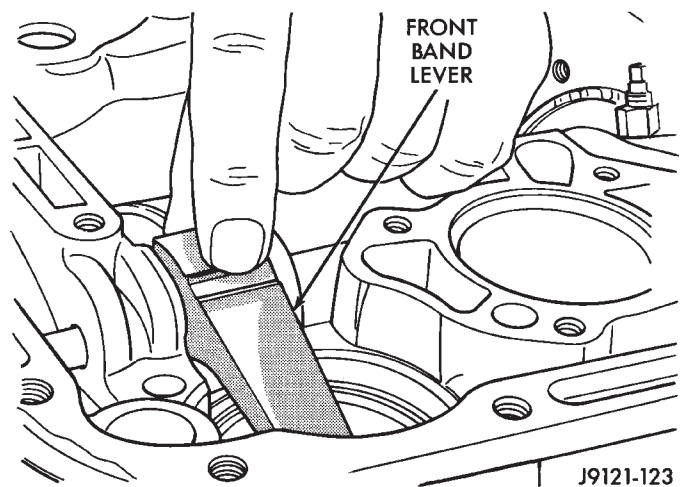
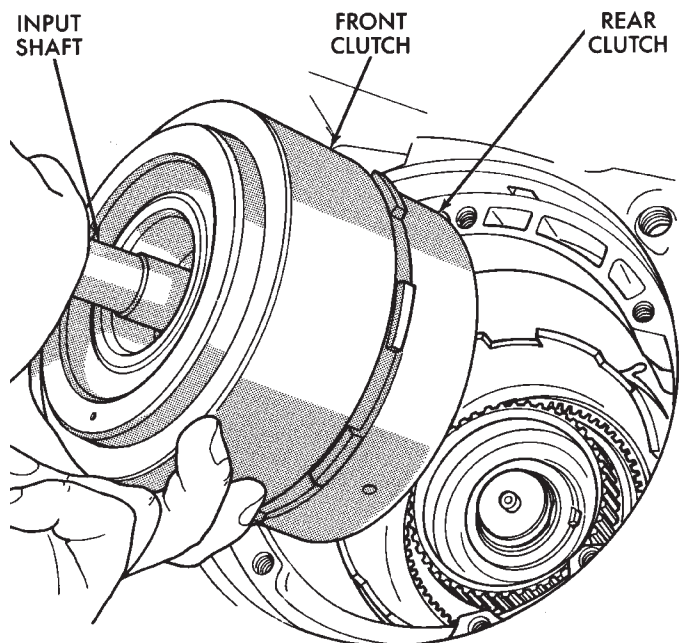

Fig. 13 Removing/Installing Front Band Lever
Fig. 14 Removing Front/Rear Clutch Assemblies
- (21) Remove front band lever (Fig. 13)
- (22) Slide front band rearward and onto driving shell. Band will not be removed until after front/rear clutch removal.
- (23) Remove front and rear clutch units as assembly. Grasp input shaft, hold clutch units together and remove them from case (Fig. 14).